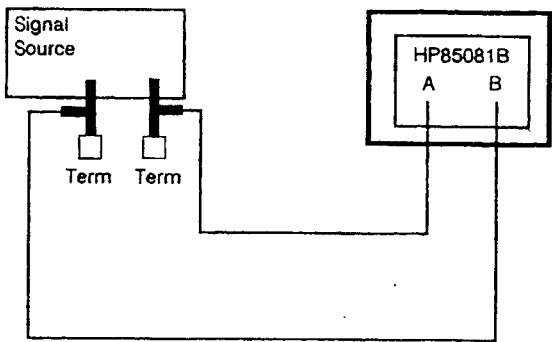

Figure 4-6. Phase Offset Accuracy Setup
1. Configure the equipment as shown in Figure 4-6, with the probe tees connected directly to the source output via the adaptors.